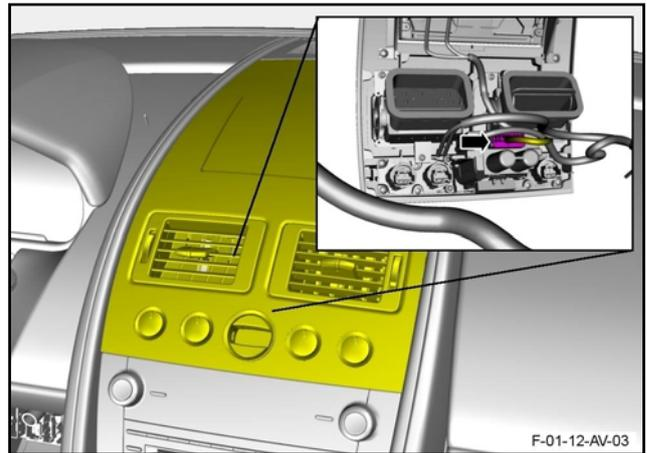

Figure 6
7. Disconnect the electrical connector from the ignition switch module (Refer to Figure 6).